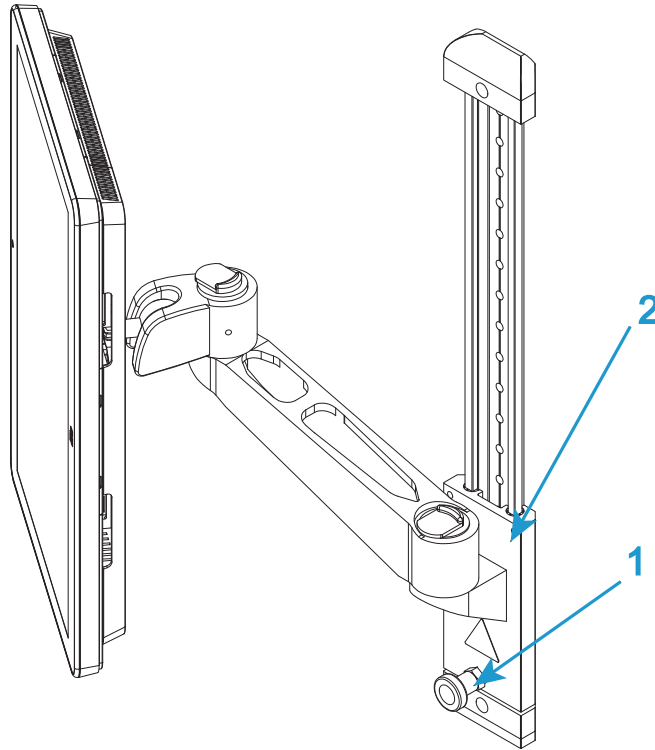

Figure 9. Height adjustment
1. You can adjust the height of the Bluehill® Operator Dashboard for the comfort of different operators. Loosen the lock (1 in Figure 9 on page 49) and slide the arm mounting (2 in Figure 9 on page 49) to the desired height. Re-tighten the lock.